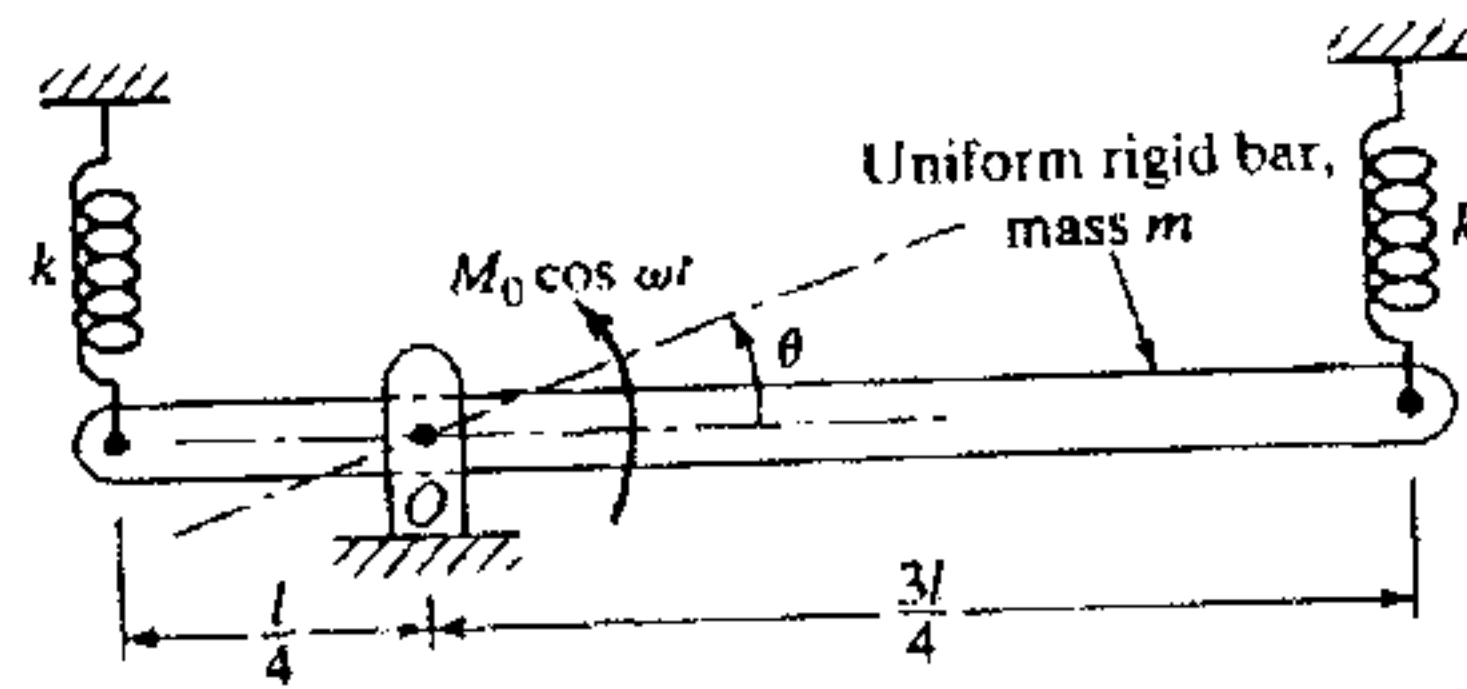

Fig 2
2. Derive the equation of motion and find the steady state solution of the system shown in the Fig 2 for rotational motion about the hinge O for the following data: